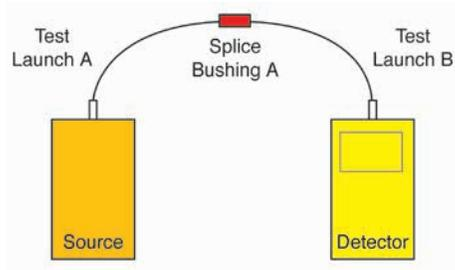

Figure 3
- Two test launch jumpers are connected to a source and a detector as shown in Figure 3. The detector is “zeroed” to eliminate the effects of loss through the launch jumper and source.
For Substitution Method See Figure 3 on page 6.